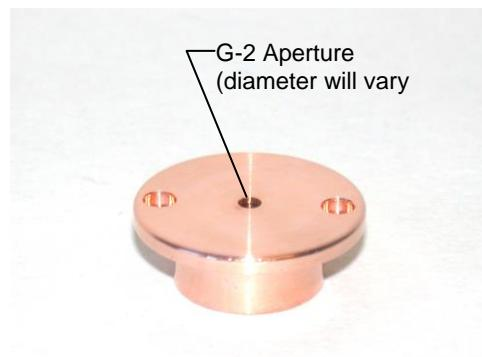

Fig. 6.5-2 Copper Anode element, G-2 aperture
- c. The lens assembly will remain in place inside the gun housing. Looking down the Flange Multiplexer the copper Anode should now be visible. (Figs. 6.5-2 and 6.5.4 below)